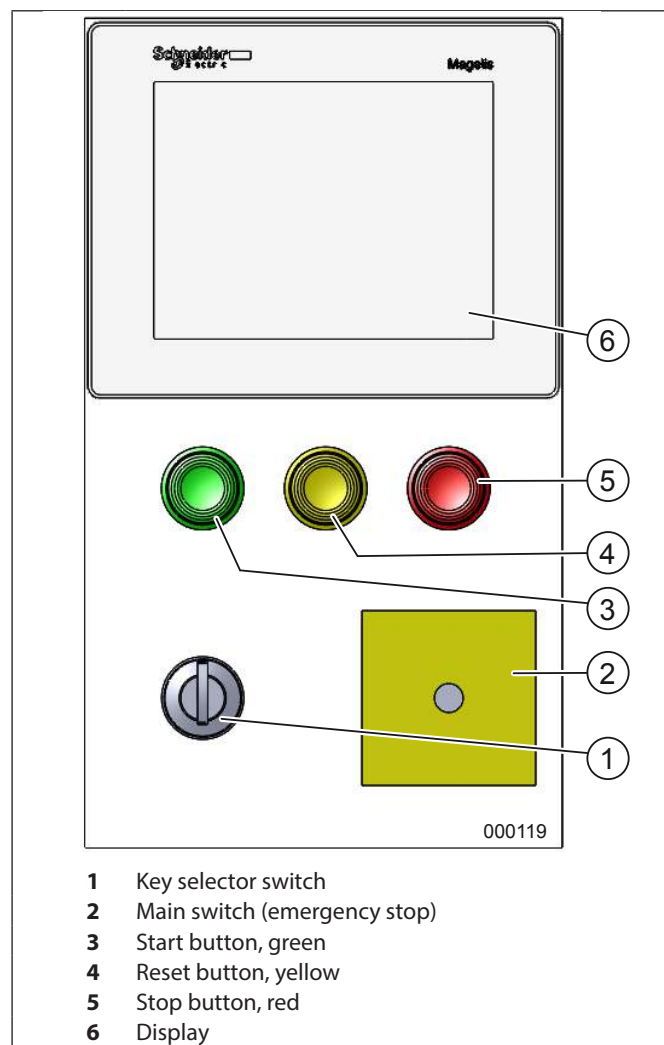

fig. 7 Controls
1. Free the emergency-stop bar (pull out the bar) (fig. 6) on the shredder feed table. Switch on the main switch (fig. 7/2) i.e. to position „1“.
2. Turn the key selector switch (fig. 7/1) to the right.
3. Press the green start button (fig. 7/3).
Four main screens (fig. 7/6) are used to control the machine.
- the key selector switch (fig. 7/1) is in the middle position.
Should it be necessary, for any reason, to switch off or stop the machine as quickly as possible, this can be achieved by pressing the emergency stop bar. To switch on again, release the bar (pull it out) and operate the green „Start button“ (fig. 7/3).
1. Set the main switch (fig. 7/2) to position "1".
2. Insert the enclosed key into the key selector switch (fig. 7/1) and turn it to the right.
- The key switch (fig. 7/1) has been unlocked (turn key clockwise)
- The mains switch (fig. 7/2) has been switched on (switch position "1")